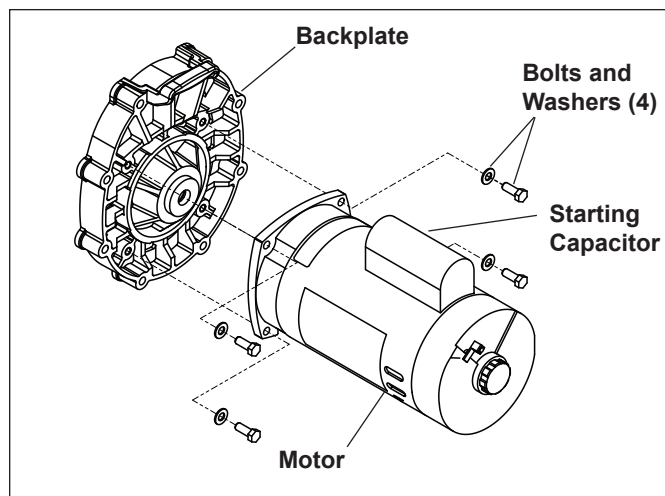

Figure 10. Backplate Assembly
3. Place the backplate motor assembly o-ring side down and unscrew the four (4) 9/16" screws and remove the motor.
- NOTE Before removing the backplate, note the alignment of the backplate to the motor. See Figure 10.
5. Replace the four (4) bolts and washers holding the backplate to the motor.